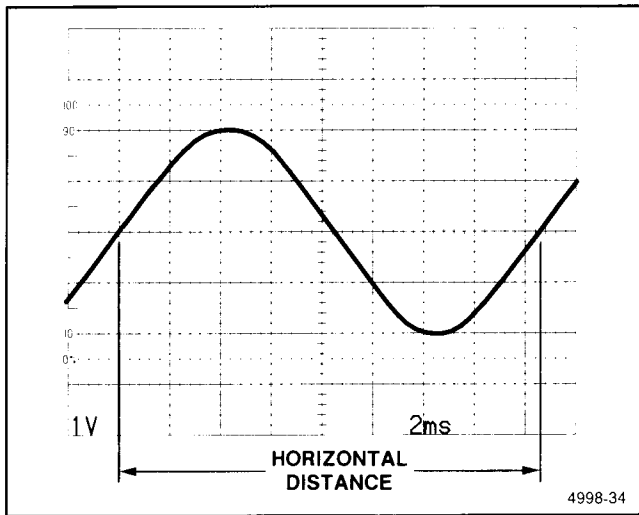

Figure 6-21. Time duration.
EXAMPLE: The signal in Figure 6-21 has a time duration of 16.6 ms.
EXAMPLE: The distance between the time-measurement points is 8.3 divisions (see Figure 6-21), and the A SEC/DIV switch is set to 2 ms. The X10 Magnifier switch is pushed in (1X magnification).
5. Position the display to place the time-measurement points on the center horizontal graticule line (see Figure 6-21).